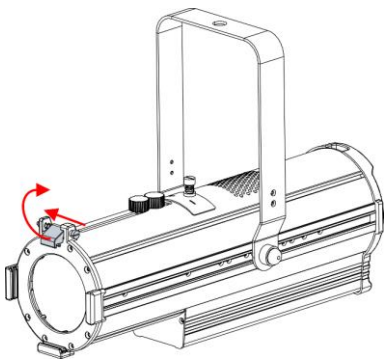
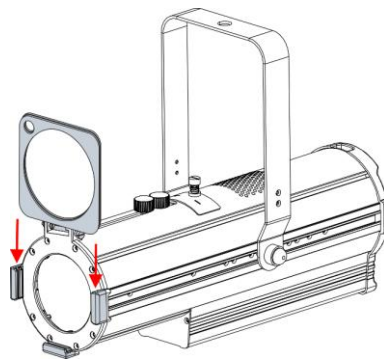

Fig. 14
Fig. 15
- 01) Push the **spring-loaded screw (01)** and at the same time lift the **color frame clip (02)** and flip it backwards (see Fig. 14).
- 02) Insert a color gel or a diffusion filter into the **color frame (19)**.
- 03) Insert the **color frame (19)** into the **color frame holders (04)** (see Fig. 15).